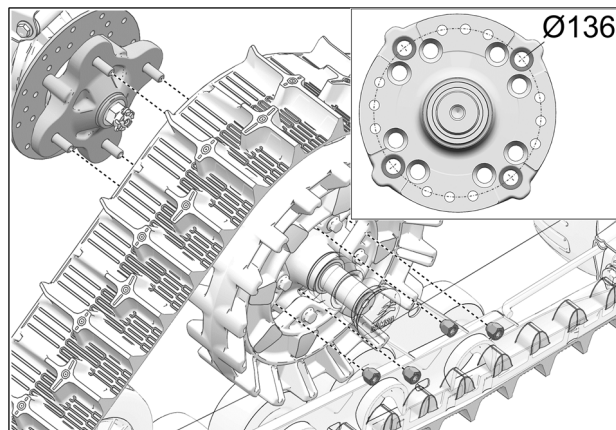

Fig. 18
8. Secure undercarriage to front hub using the vehicle's own lug nuts. Use bolt circle $\text{\O}136\text{ mm}$. See Fig. 18